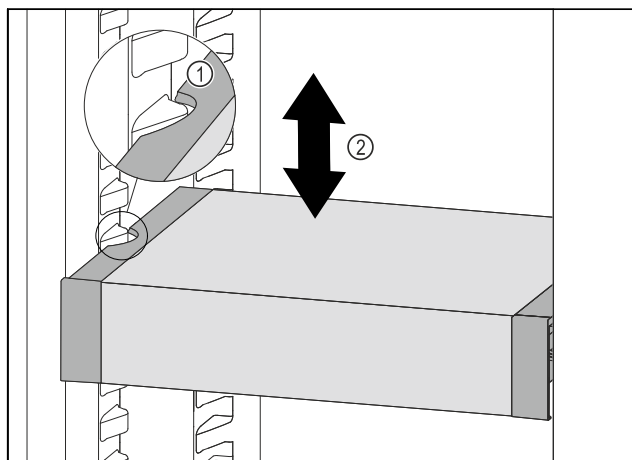

Fig. 108
- Pull VarioSafe forwards until the recesses in the side of the VarioSafe are at the level of the support rib in the refrigerator compartment. *Fig. 108 (1)*
- Move VarioSafe up or down in the refrigerator compartment until the desired height is reached. *Fig. 108 (2)*